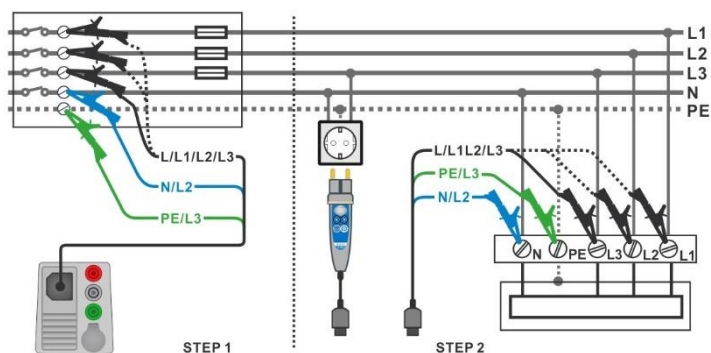

Figure 7.107: AUTO TT measurement
- ▶ Connect 3-wire test lead or Plug commander to the object under test, see Figure 7.107.